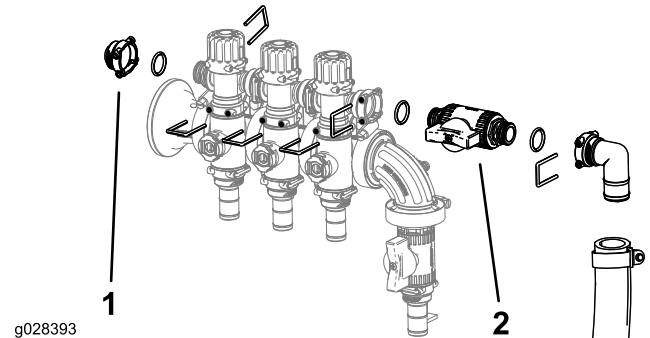

Figure 6
5. Install the bypass adjustment assembly, female cap, O-rings, shutoff valve, and fitting and hose assembly using the retainers previously removed as shown in Figure 6.